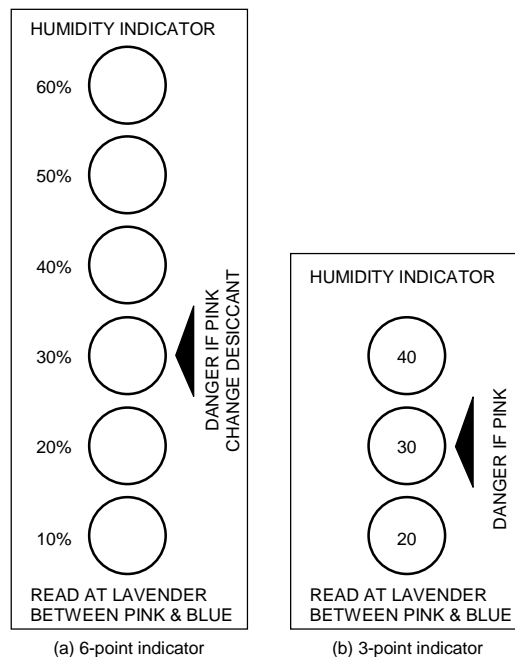

Figure 1 Humidity indicator
- If the 12-month storage period has expired, or if the 30% humidity indicator shown in Figure 1 is pink when the packing is opened, it may be advisable, depending on the device and packing type, to bake the devices at high temperature to remove any moisture. Please refer to the table below. After the pack has been opened, use the devices in a 5°C to 30°C, 60% RH environment and within the effective usage period listed on the moisture-proof package. If the effective usage period has expired, or if the packing has been stored in a high-humidity environment, bake the devices at high temperature.